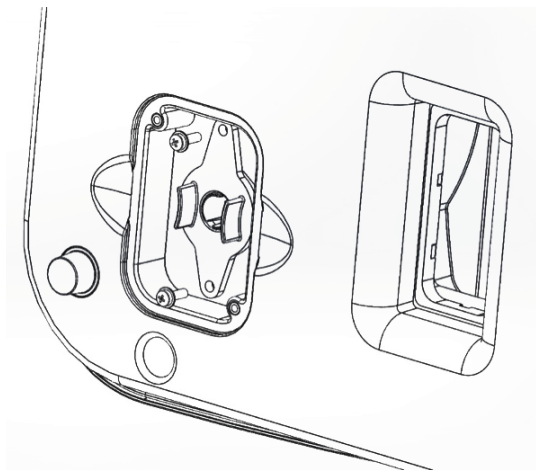

Fig. 1
3. Remove the two fixing screws and washers which retain the lamp assembly (fig 1).